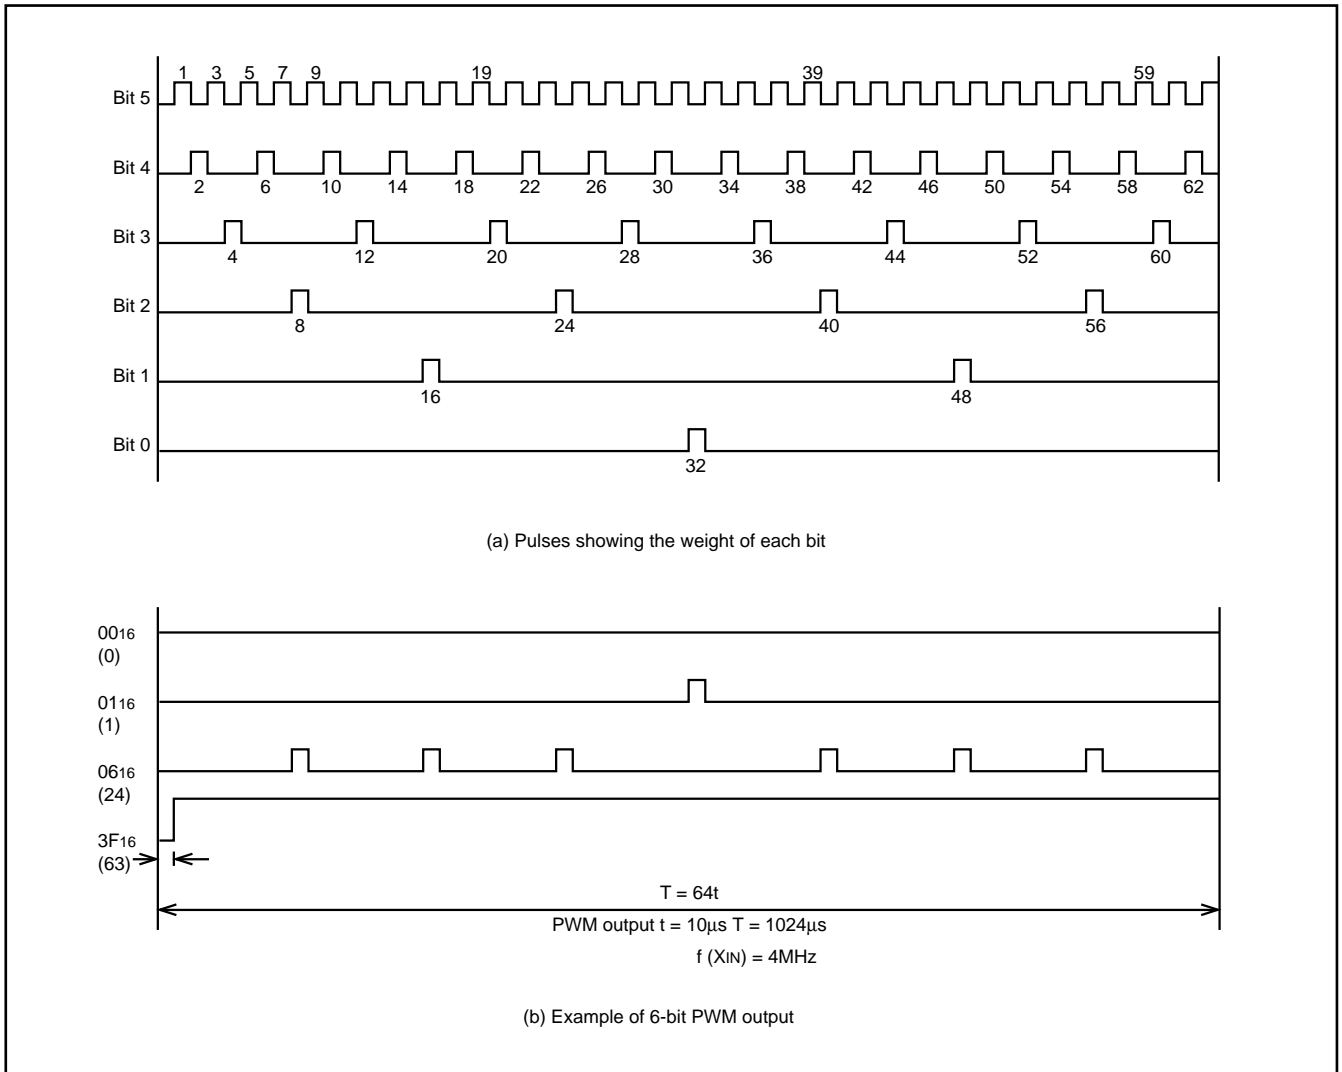

Fig. 13 6-bit PWM timing
The timing diagram of the eight 6-bit PWMs (PWM0-7) is shown in Figure 13. One period (T) is composed of 64 ( $2^6$ ) segments. There are six different pulse types configured from bits 0 to 5 representing the significance of each bit. These are output
within one period in the circuit internal section. Refer to Figure 13 (a).
These can be selected by bits 0 through 5. Depending on the content of the 6-bit PWM latch, pulses from 5 to 0 are selected. The PWM output is the difference of the sum of each of these pulses. Several examples are shown in Figure 13 (b). Changes in the contents of the PWM latch allows the selection of 64 lengths of high-level area outputs varying from 0/64 to 63/64. A length of entirely high-level output cannot be output, i.e. 64/64.